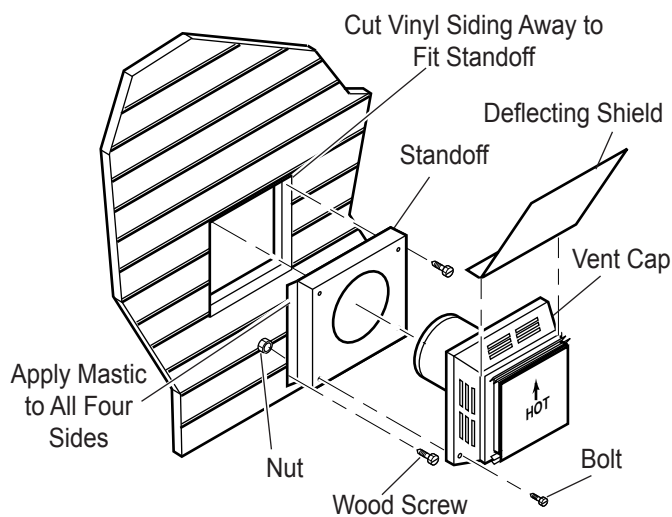

**Figure 13 - Rigid Vent Pipe Connections**
**Twist-lock Procedure:** The female ends of the pipes and fittings have three locking lugs (indentations). These lugs will slide straight into matching slots on the male end of adjacent pipes and fittings. Push the pipe sections together and twist one section clockwise approximately one-quarter turn until the sections are fully locked. See *Figure 13*.